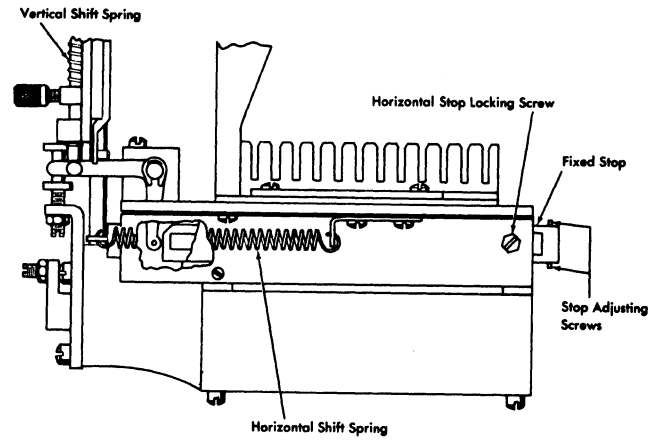

Figure 84. Print Interposer Assembly
2. Loosen stop adjustment locking screws and back off horizontal and vertical stop adjusting screws (Figure 84).